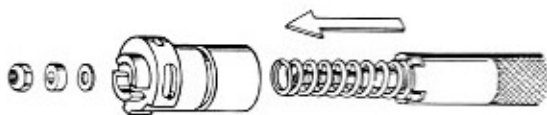

Figure 6
1. Insert the new disc (item 1) into the bore provided for it on the retainer (item 2).
2. Position the spring (item 3) over the stem of the retainer (item 2).
3. Fit the disc and retainer with its spring onto the disc and retainer wrench (U.S.D. PN 1100-05) and carefully place the assembly into the insert (item 4). See figure 6.